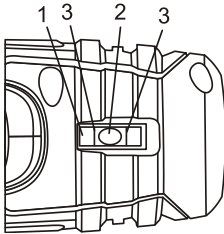

Fig. 10
The horizontal level (1) is located in the top of the drill/driver housing (Fig. 10).